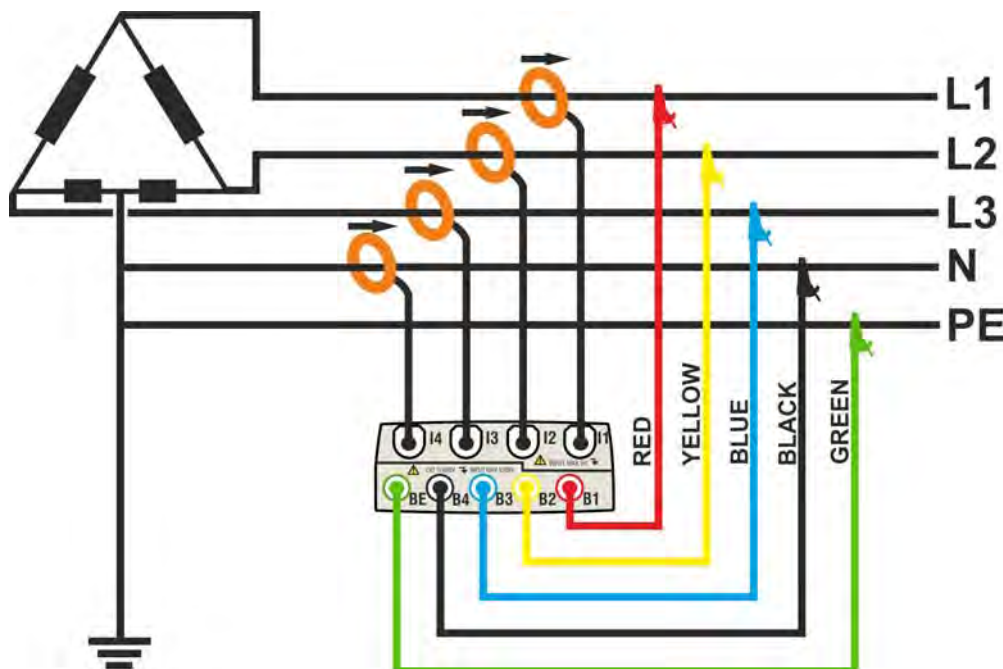

Fig. 123: Meter connection in a three phase 4-wire 3P HL system – ENG_UK type
2. Connect voltage test leads on Phases L1, L2, L3, N and PE cables considering the colours as shown in Fig. 123. **Verify the result “123” at display relative to a correct phase sequence indication** (see § 5.2.1) and perform the corrections if necessary.
3. Connect the transducer current clamps on Phase L1, L2, L3 and N cables as shown in Fig. 123 respecting the clamp's arrow direction indicating the current standard sequence from generator to load. **On Real Time Values' section screens (selecting a 3 wire system preliminarily) always verify the positive value of Active Power and the power factor relative to load which should be normally inductive** before starting a recording. Reverse the clamp by 180 degrees on cables in case of negative readings.